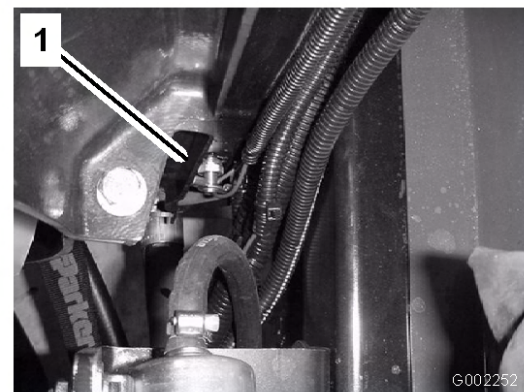

Figure 54
4. Open the drain (Figure 54) and drain the coolant into the pan.